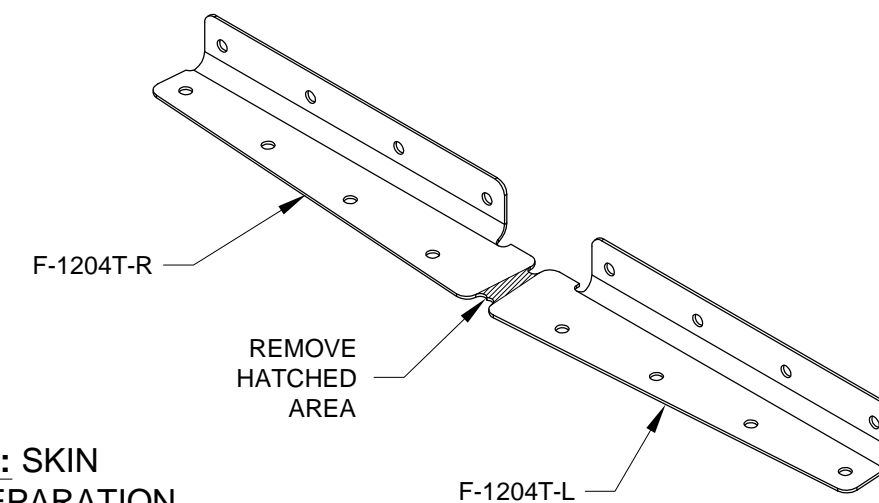

FIGURE 4: SKIN STIFFENER SEPARATION
Step 6: Separate F-1204T-L and F-1204T-R Skin Stiffeners by removing the hatched areas shown in Figure 4.